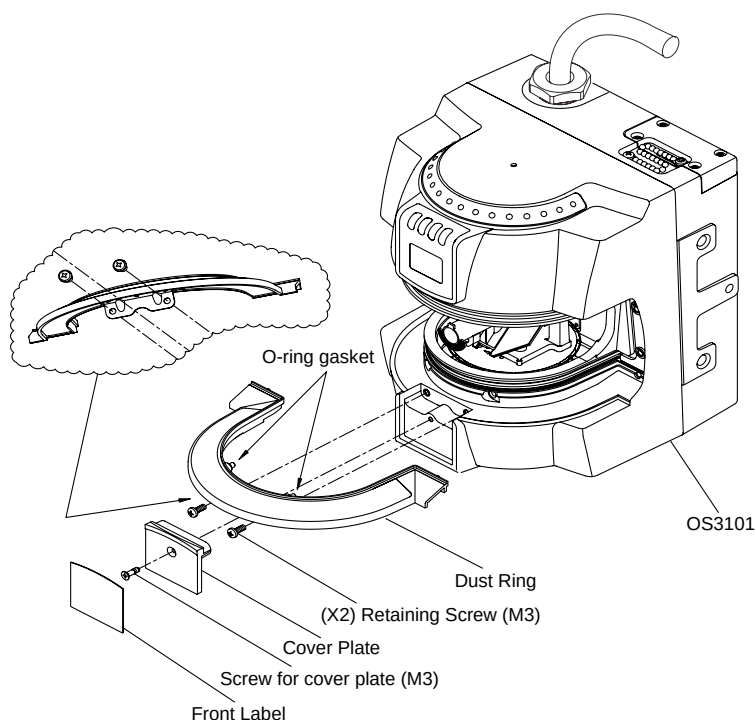

Fig. 7-5 Dust Ring Replacement
13. Replace the four screws with flat washers in an alternating pattern ( Fig. 7-5). It is recommended that the screws be tightened to a torque of $0.14\text{N}\cdot\text{m}$.